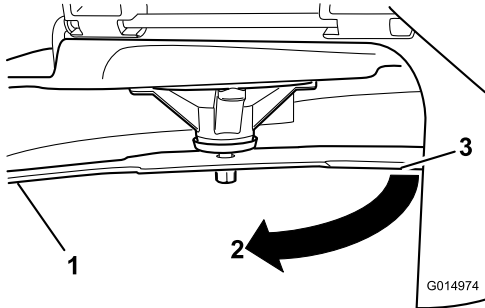

Figure 97
4. Rotate the same blade 180 degrees so that the opposing cutting edge is now in the same position (Figure 97).